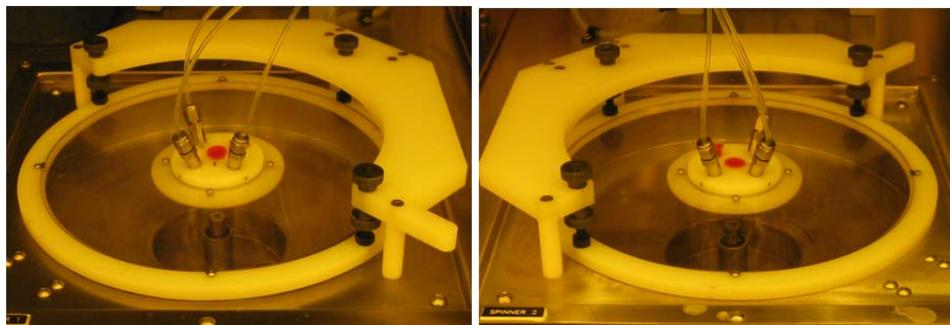

Figure 1
1. The two spinners (Figure 1) are separately controlled by Brewer Science software. The touch screens are on the forehead of the hood. If the screen looks dark, touch the screen once with the touch screen pen to show the screen.